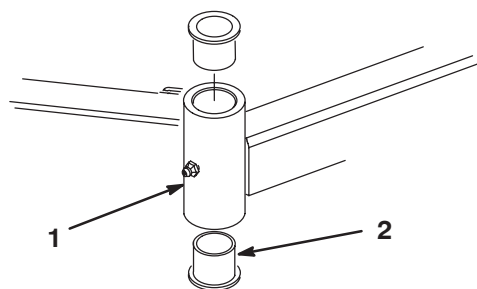

Figure 85
4. Insert a pin punch into the top or bottom of the mounting tube and drive the bushing out of the tube (Fig. 85). Also drive the other bushing out of the tube. Clean the inside of the tubes to remove dirt.